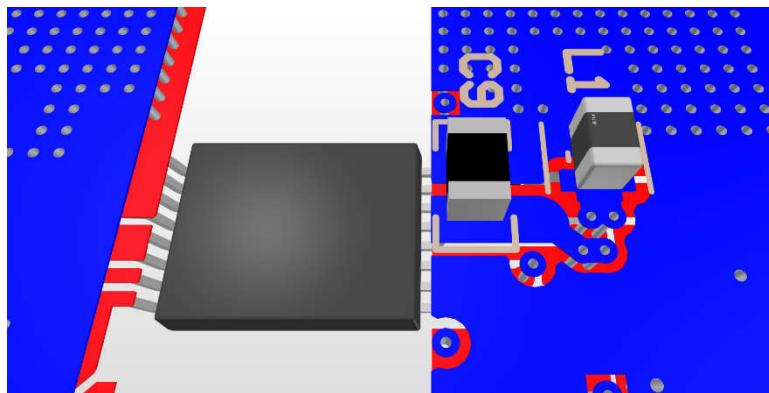

Figure 8-9. Bottom Side, Buck Boost, VEE LC Placement and Routing
- a. Place the $2.2\mu F$ high frequency bypass capacitor (C9) as close as possible to VEE and COM pins. The self-resonant frequency in 3MHz to 4MHz is most ideal to offer low impedance decoupling for the switching frequency noise of the buck-boost converter with the $3.3\mu H$ inductor (L1) selection. It is possible to put the capacitor on the different side of PCB and use vias to connect, in order to reduce the switching loop between the capacitor and the internal low-side MOSFET of the VEE buck-boost converter. In addition, putting the capacitor on different side will also simplify the decoupling capacitor placement of VDD pin and COM pin. An example of bottom side PCB placement of C9 and L1 is shown in Figure 8-9.